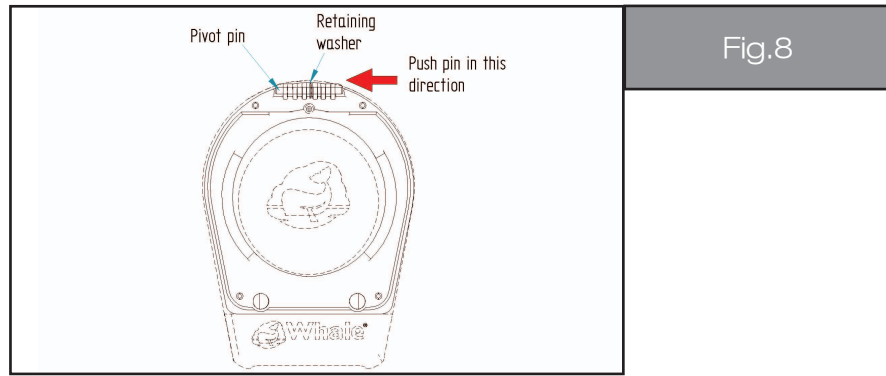

Fig.8
1. Press out hinge pin in illustrated direction using appropriate force (then slide off handle). Care should be taken to keep the retaining washer in a safe place (see fig. 8).
8. Reattach the handle by reconnecting the hinge, pressing the pin through the retaining washer (See fig. 8).